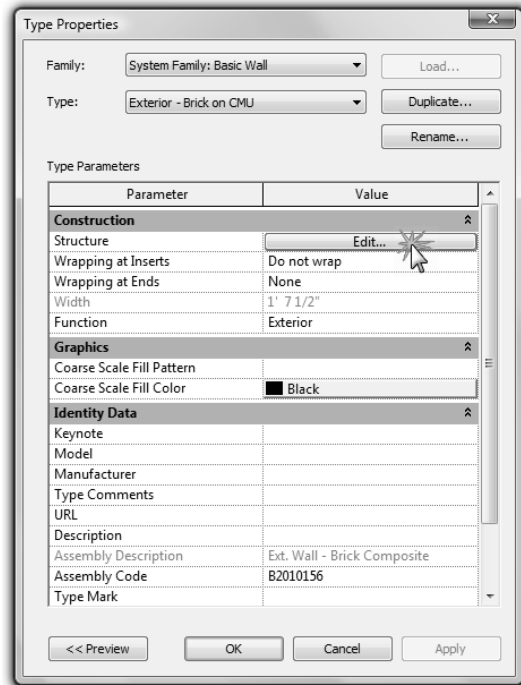

Figure 3-2.4 Type Properties
7. You should be in the *Type Properties* dialog box. Click the **Edit** button next to the *Structure* parameter (Figure 3-2.4).